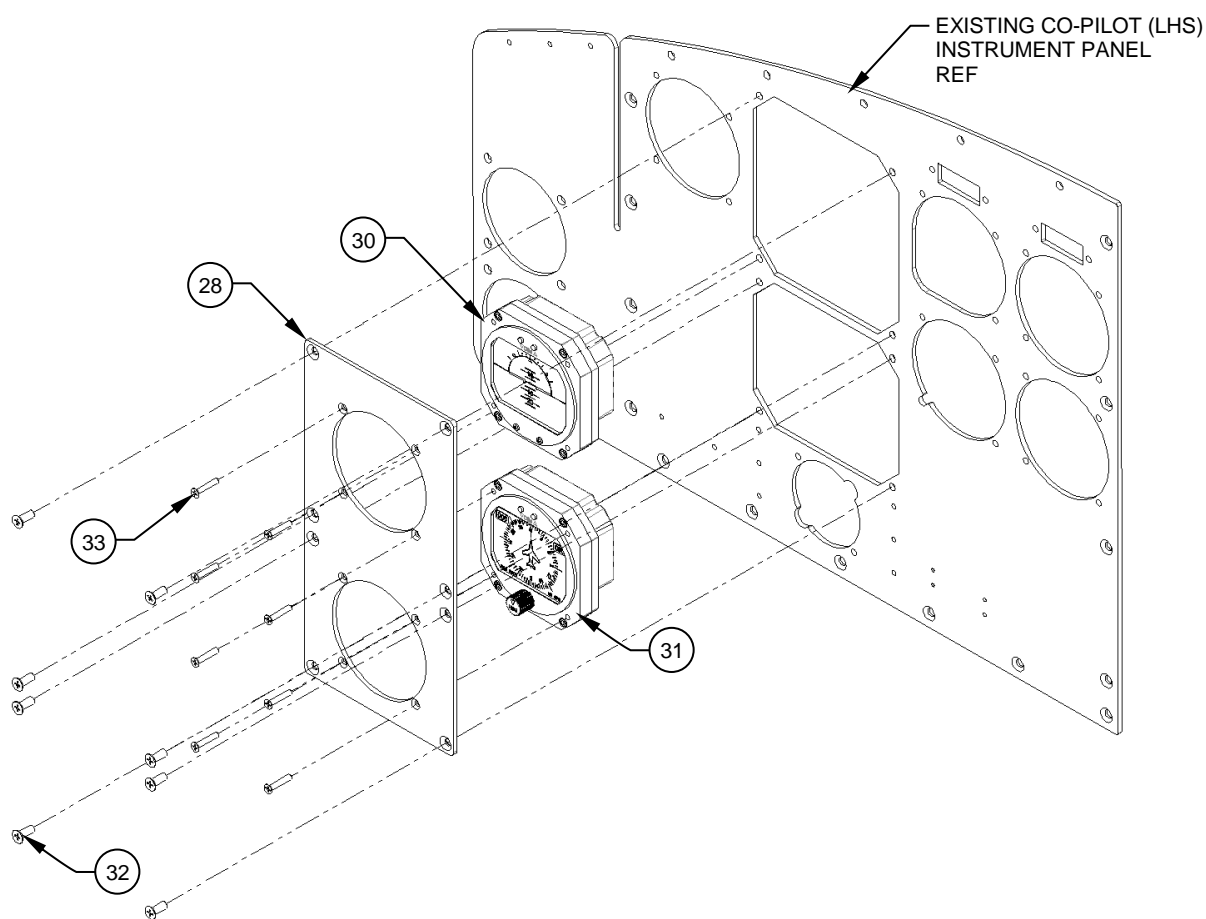

Figure 6
10. Attach the Adaptor, Details (Item 28) to the pilot and co-pilot instrument panels in the locations that previously housed the HSI and ADI using the provided fasteners (Items 32 & 33). Reference Figures 6 & 7. If the aircraft has a serial number of 30596 or earlier, then install Adaptor, Details (Item 29 (not shown)) instead and install the Heading Indicator (Item 31) directly into the standard 3 inch hole in the existing instrument panel. Reference Figure 6 & 7.